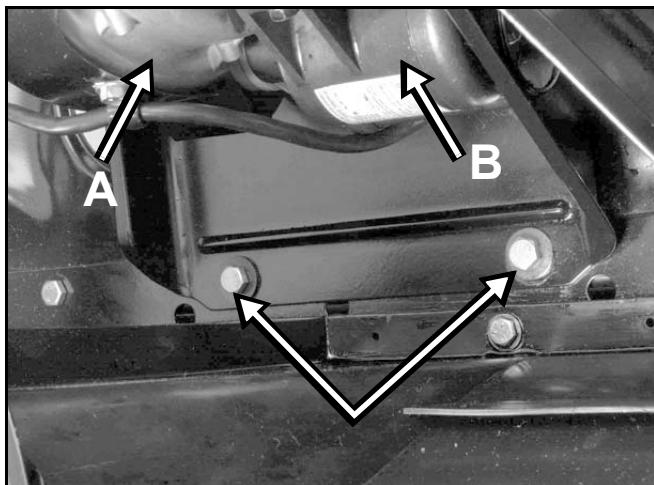

Figure 27
13. Remove 2 bolts right in front of the engine. It will be necessary to reach under the unit to access the locknuts (Figure 27).